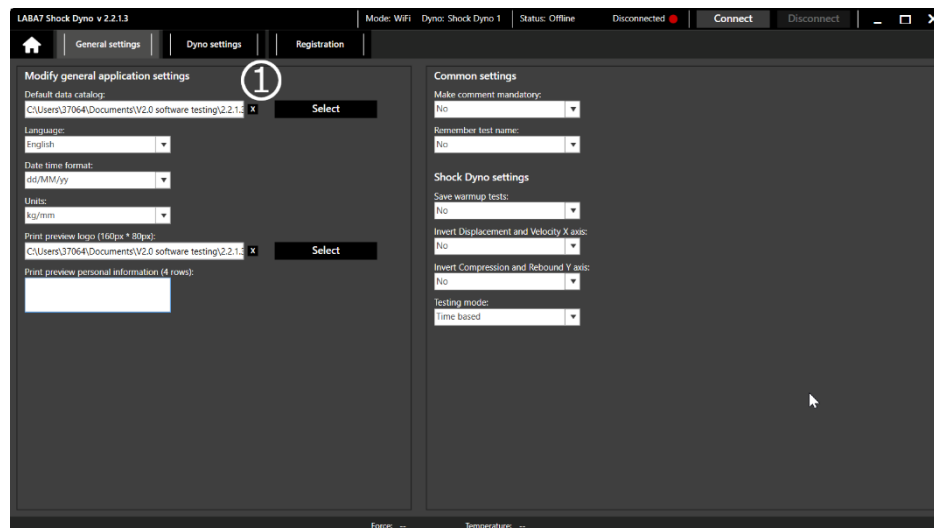

Figure 17
3. Select the default data catalog, this is the catalog, where all of your test project files will be saved. (Figure 17 – Step 1).